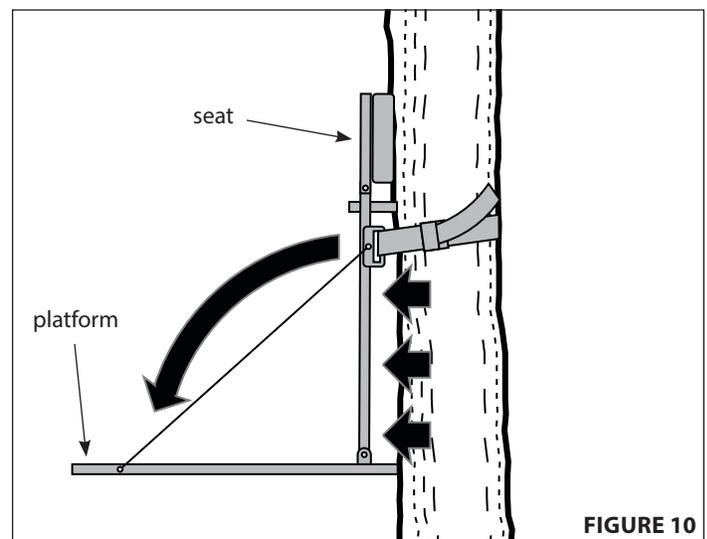

FIGURE 10
e. Once securely attached, pivot the platform down. This lever-action will snug stand up tight to tree to prevent any shifting. Redo as necessary to accomplish a snug stand-to-tree fit. All four contact bars must be touching tree! **SEE FIGURE 10**
- Before stepping down onto center of stand platform, be sure it is secured properly and is tight against tree with all (4) contact bars touching tree!